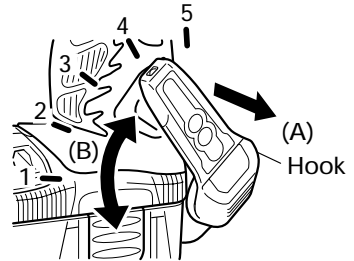

Fig. 9
(1) Operating the hook
- Pull out the hook toward you in the direction of arrow (A) and turn in the direction of arrow (B). (Fig. 9)